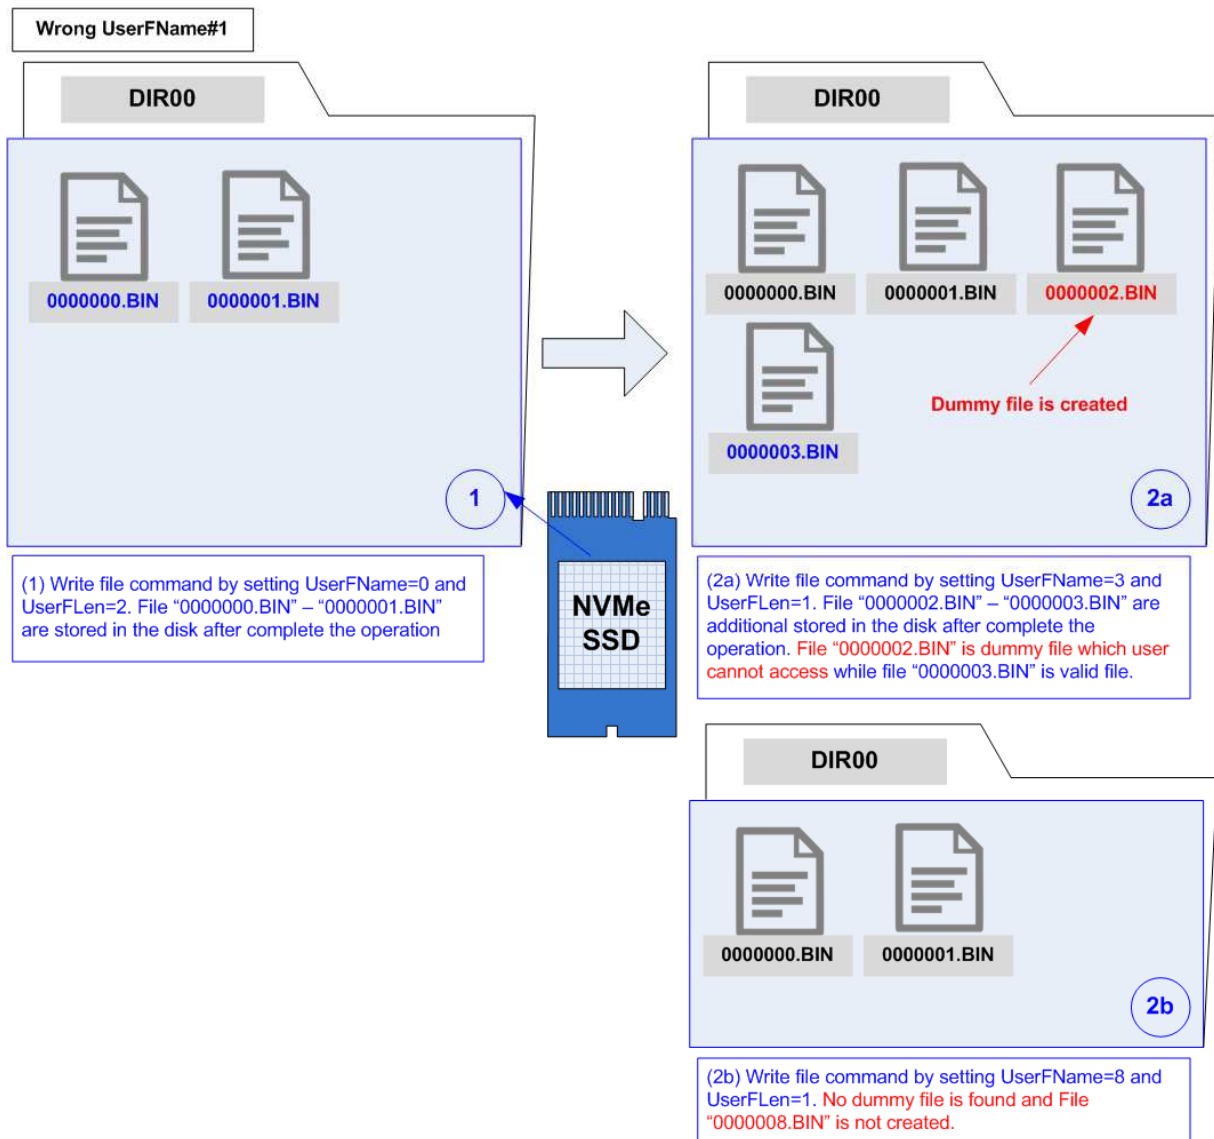
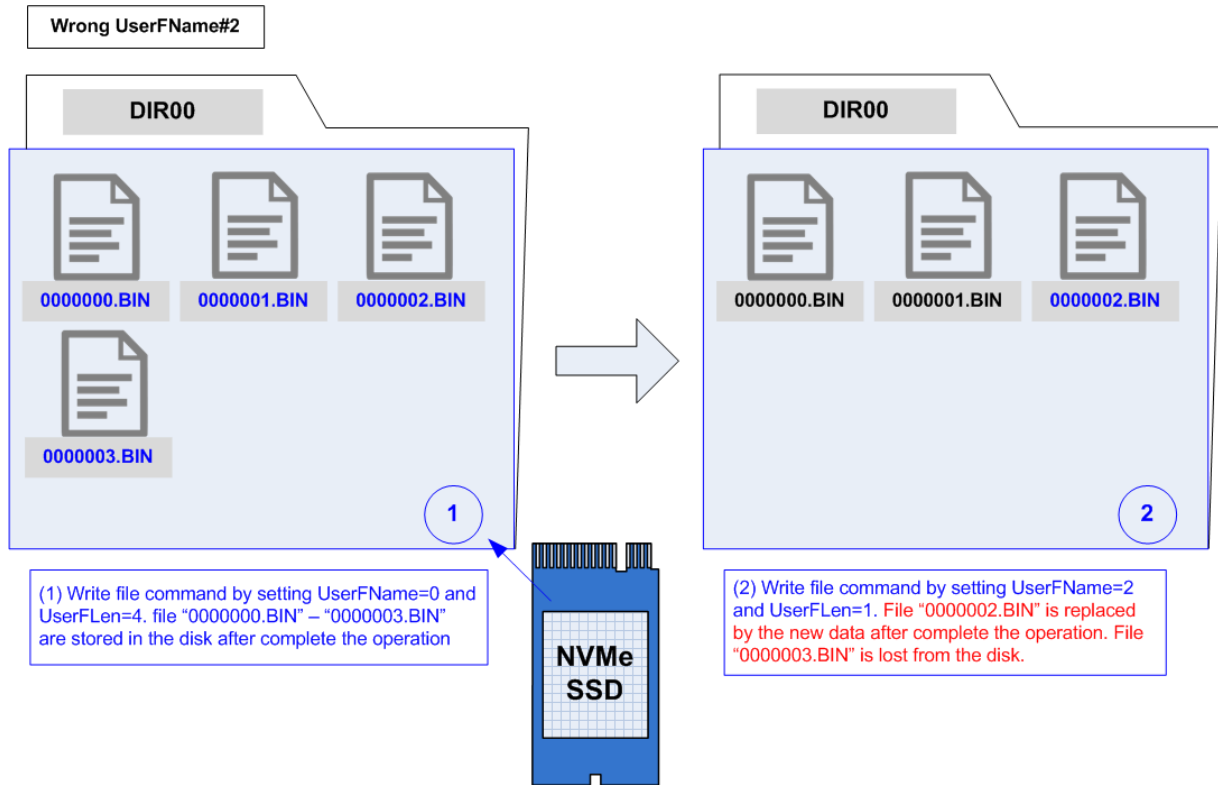

Figure 9: Write file command but UserFName is more than normal value
Figure 10: Write file command but UserFName is less than normal value
The example to set the wrong value of UserFName is shown in Figure 9 - Figure 10.
- (i) Dummy file is created between the latest write file and the new file, as shown in (2a) of Figure 9. File 0000002.BIN (dummy file which consists of random data) is generated when UserFName input is equal to 3 instead of 2 which is correct value.
- (ii) No new file is created, as shown in (2b) of Figure 9. If UserFName input is much skipped than correct value, no new created file will be created. For example, UserFName is equal to 8 instead of 2 which is correct value.
- b) When UserFName is less than (the latest write file name + 1), some old files which are more than UserFName may be deleted, as shown in Figure 10.